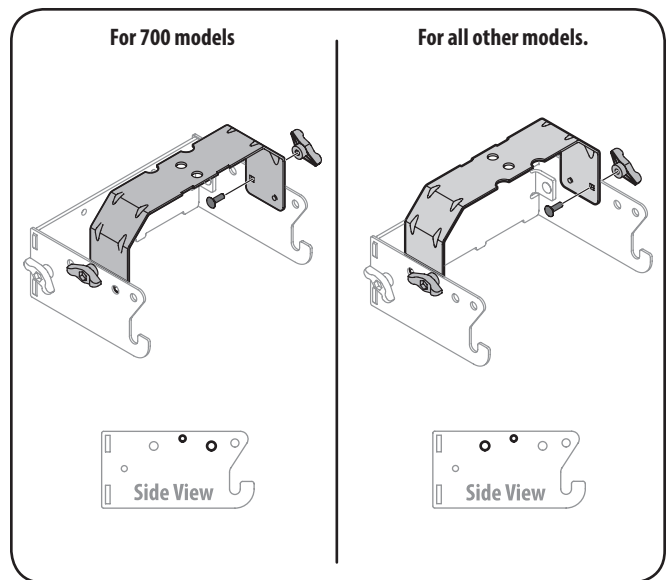

Figure 3-4
2. Flip over assembly and mount the hitch support bracket to the mounting assembly as shown in Figure 3-4.
**Note:** The holes closest to the mounting hooks are to be used for all 700 model series machines, while the two holes closest to the cross mount are for all other models. The hitch support bracket will need to be flipped to enable alignment of the proper holes depending on the model of machine this weight kit is being installed on. See Figure 3-4.